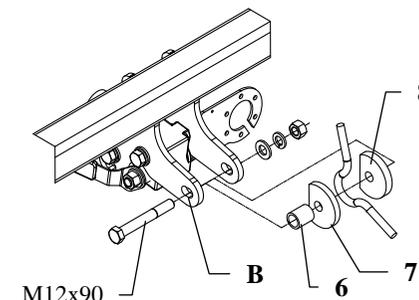

Fig. 3. Rear view
5. Through hole (pos. B) of the towbar fix with original towing eye – use truncate washers (pos. 7 and 8), distance sleeve $\varnothing 21\text{mm}$, $L=25\text{mm}$ (pos. 6) and bolt M12x90mm (pos. 9) – see figure 3.
6. Fix body of the automat and place tow-ball according to supplied instruction. Note! Remember to place socket plate (pos. 3) as shown on the drawing 1.